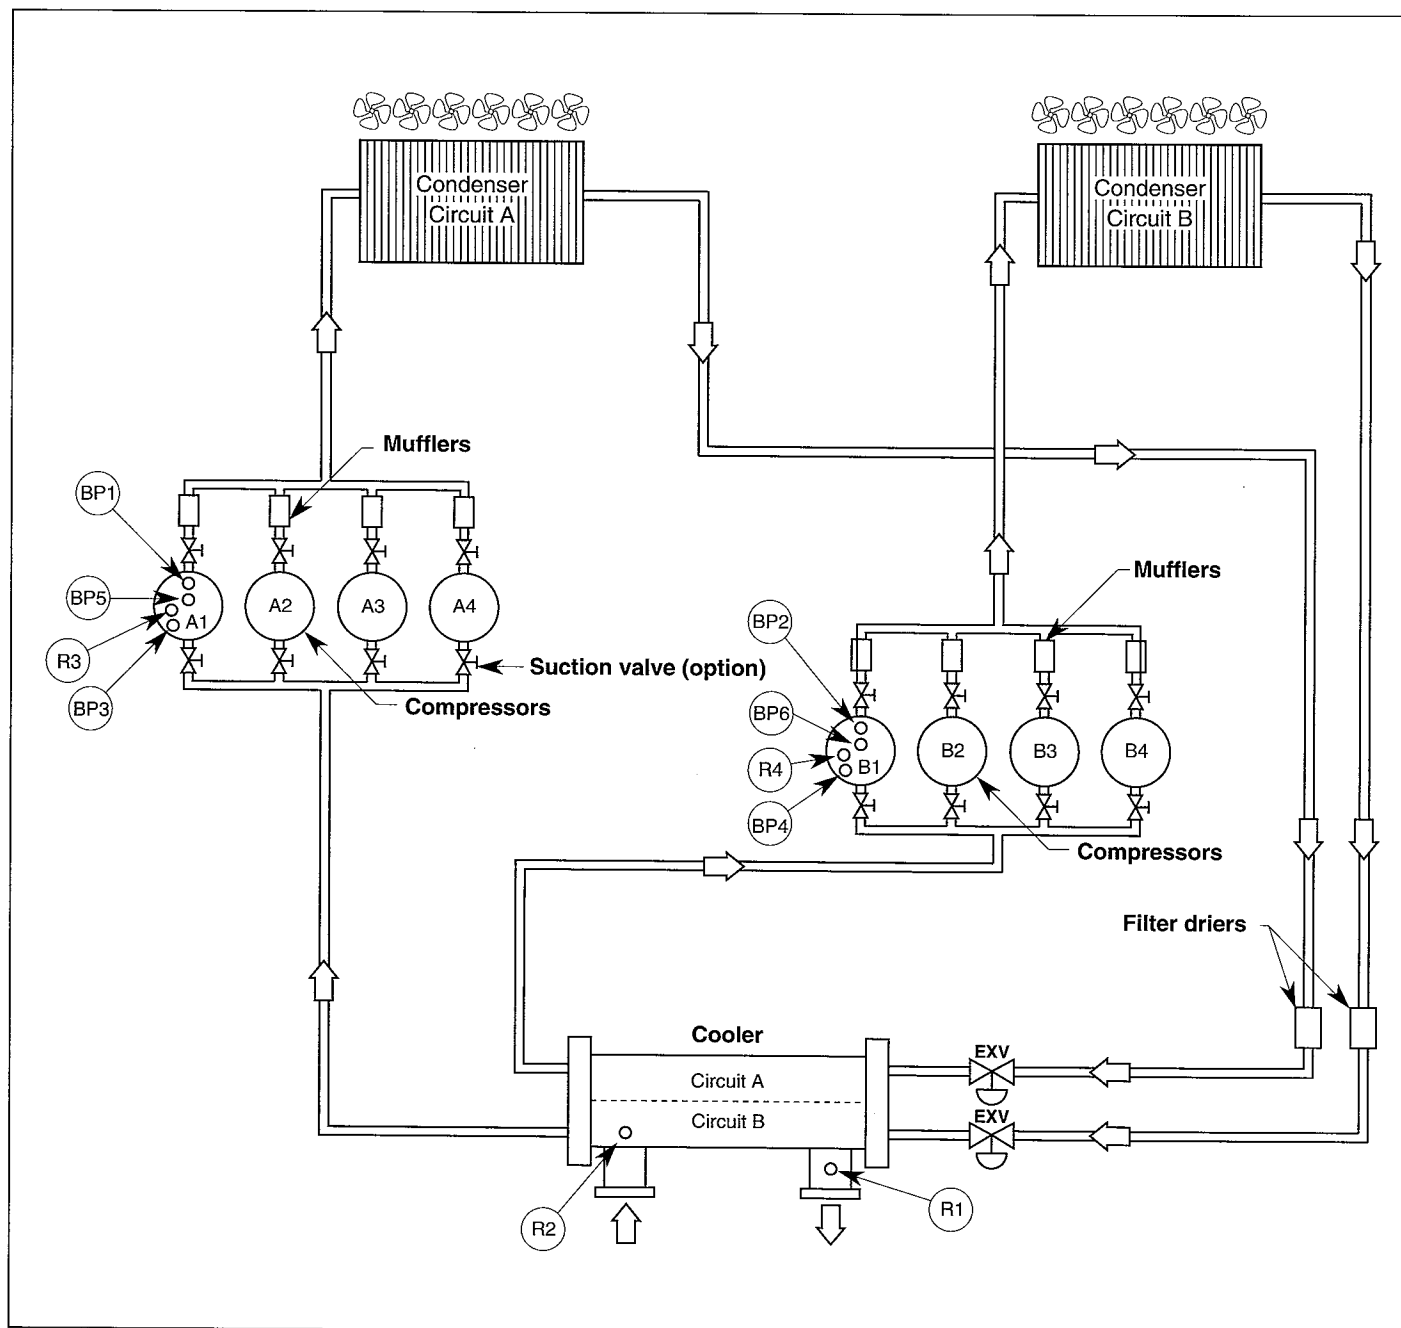
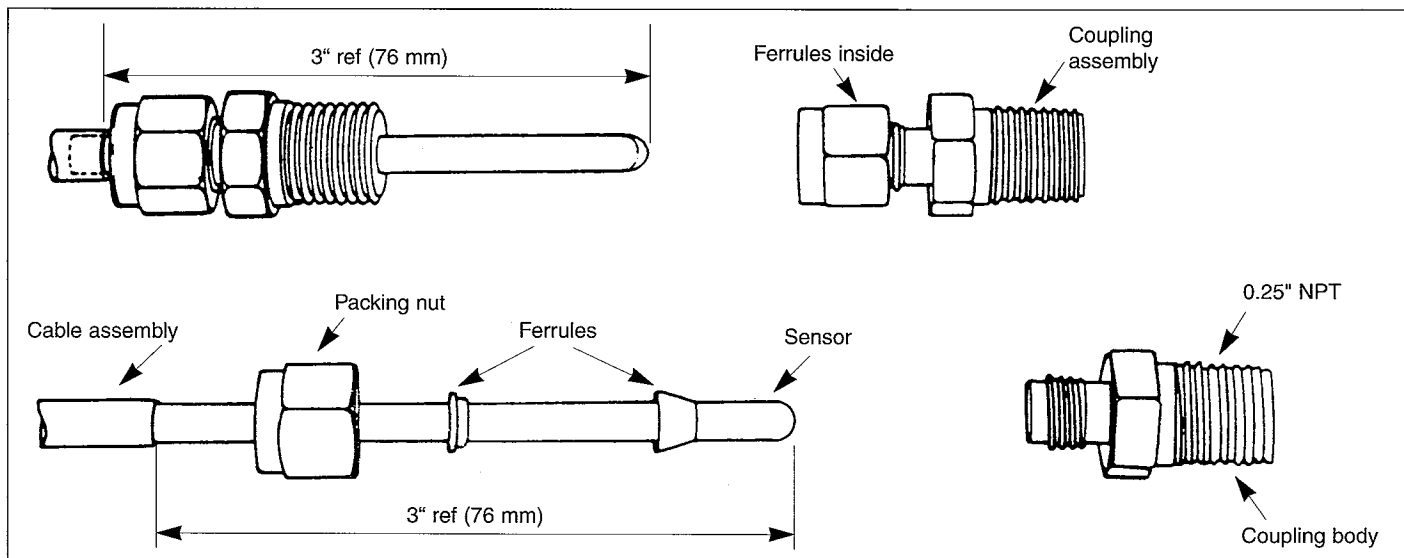

Fig. 18 Thermistor and pressure transducer locations - ex : 30GF 220
Fig. 19 Thermistor (compressor and cooler)
Check thermistors that control processor output voltage pulses to EXVs. Circuit A : thermistor is R3 and pressure transducer is BP3. Circuit B : thermistors is R4 and pressure transducer is BP4. Refer to fig. 18 for location.
General location of thermistor sensors are shown in fig. 18. Cooler leaving water sensor R1, is located in the leaving water nozzle. The probe is immersed directly in the water. Connection is made through a 1/4-in. coupling (fig. 19).
Compressor Suction Gas Temperature Sensors, R3 and R4, are located in lead compressor in each circuit in a suction passage between motor and cylinders, above oil pump. The 1/4-in. coupling is used (fig. 19).
2. Apply pipe sealant to 1/4-in. NPT threads on replacement coupling and install in place of original. Do not use packing nut to tighten coupling ; this would damage ferrules (see fig. 19).